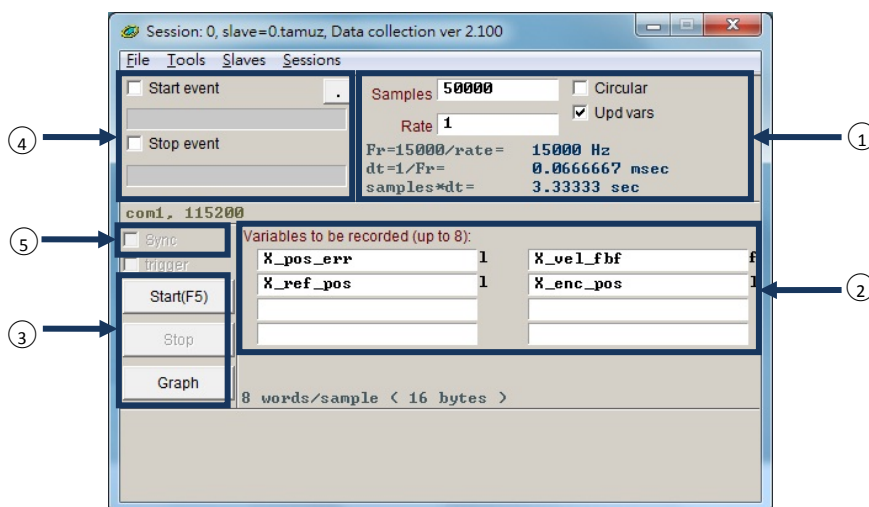

Figure 6.4.1.1 Data collection
In order to improve the accuracy of data collection, “Sync” (trigger the auto collection instantaneously) in figure 6.4.1.1 ⑤ provides more flexible and more real-time data capture than the conditional auto collection. The program fragment with the title labeled by “_RecordSync” should be added in the PDL program. Set the start event of data collection. Once this event is triggered, “Data collection” starts to collect the data. Operation steps are given as follows.
Step 4: Check “Sync” in figure 6.4.1.1 ⑤.
Step 5: Click the “Start” button in ③. The program starts to execute the “_RecordSync” function and waits for that the trigger event is satisfied. For example, when the status of I4 is changed from False to True, the data collection starts to capture the data. If I4 is triggered repeatedly, it will collect the record data of last trigger.